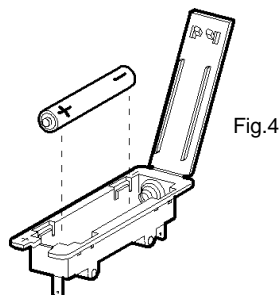

Fig.4
3. From inside the bottom compartment, lift the battery holder lid and fit the 1.5 volt battery (see Fig.4) ensuring it is fitted as indicated by the symbols on the battery holder.